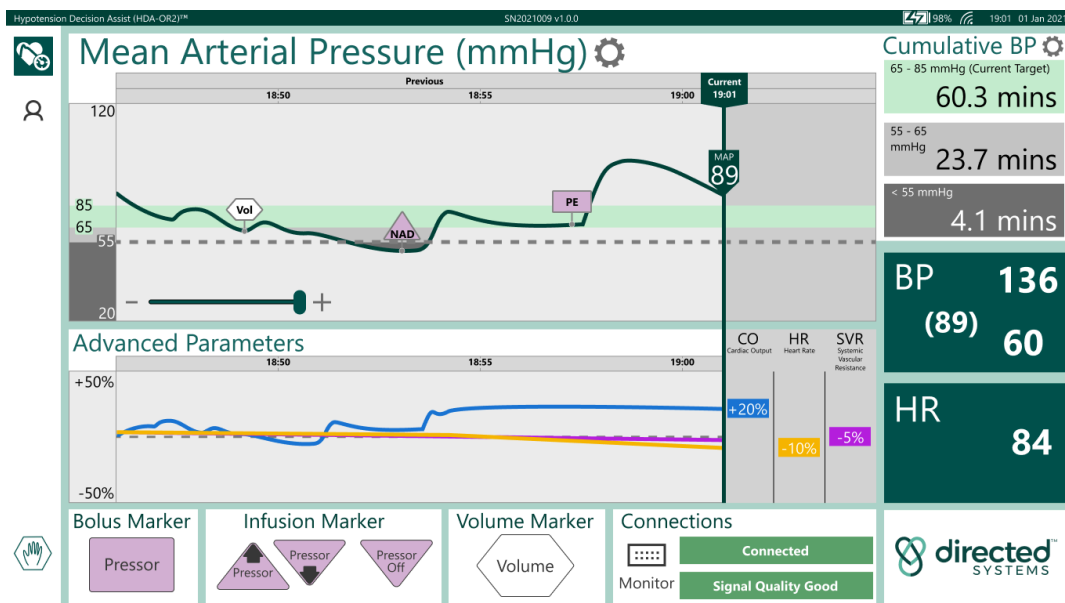

Figure 33: Examples of Markers on Main Display Screen
Upon stopping a patient monitoring session, you will be presented with the Case Review (CR). See Figure 33.
At the bottom of the trend data there is a green cursor attached to a red line. The position of this line determines the time at which the CO, HR, and SVR signals are baselined. These signals are shown as percentage changes and the baseline is the value from which the percentage change in the signal is calculated. The baseline time is displayed in the green cursor (in Figure 33 this time is 23:10). You can drag this